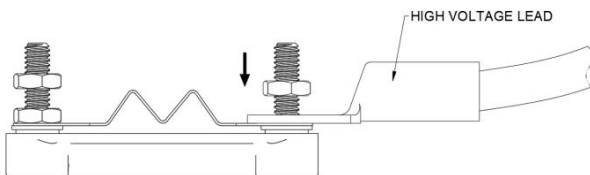
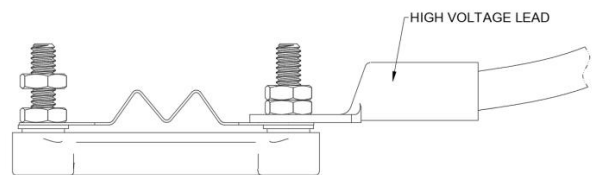

Figure 3
Figure 4
Step 3 Fit nuts onto the studs with a torque wrench and tighten each nut to a torque of 6~8N.m for the first nut (Figure 3), then apply the same 6~8N.m torque to fasten the second nut (Figure 4).